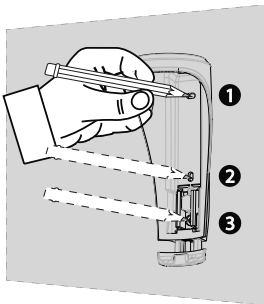

Figure 4:
1. Use the uppermost and middle holes in the device bracket to mark two holes on the mounting surface. See Hole Number 1 and Hole Number 2 in Figure 4.
2. Optional: To avail of tamper protection, use the bottommost hole in the break-away segment of the bracket to mark a third hole on the mounting surface. See Hole Number 3 in Figure 4.